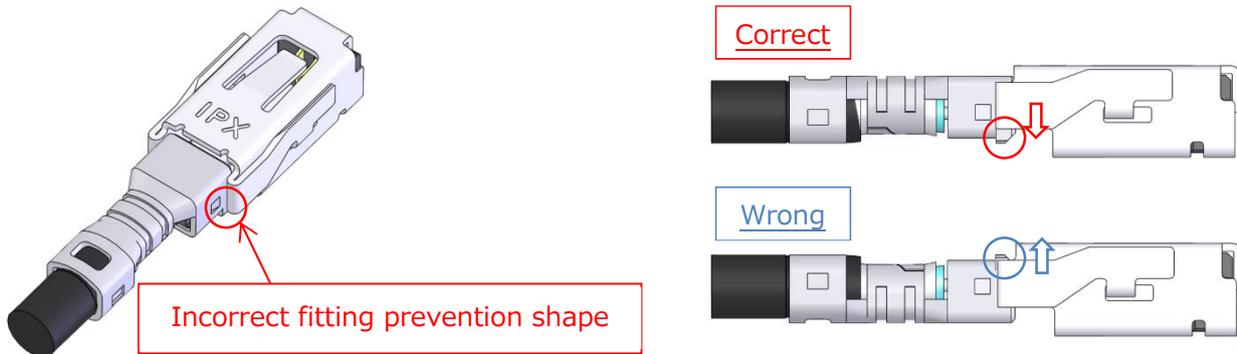

Fig. 4
- ① Place a plug on the receptacle guide shown in Fig. 4.